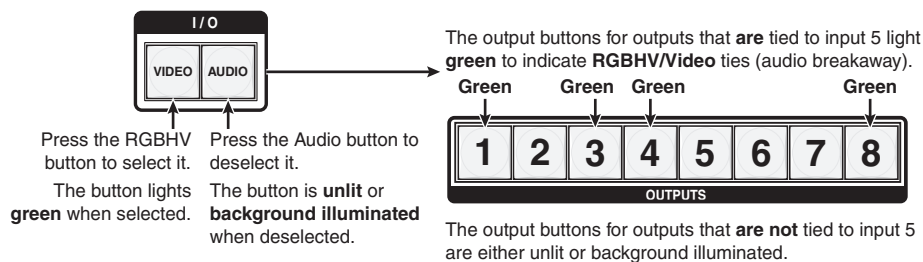

Figure 3-25 — Deselect audio and select RGBHV to view RGBHV only
6. Press and release the RGBHV button and the Audio button to toggle the RGBHV button on green and the Audio button either unlit or providing background illumination (figure 3-25).